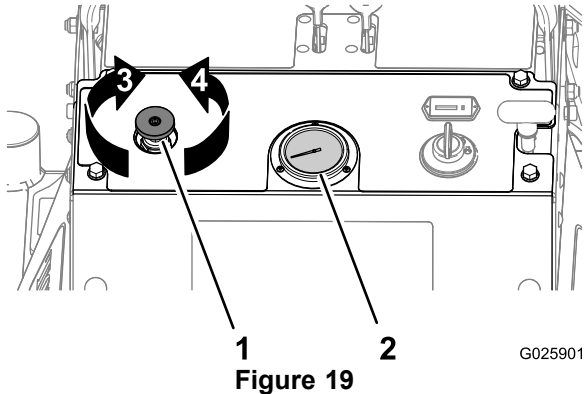

Figure 19
**Note:** First time use: set the tine pressure control so that the tine-pressure gauge (Figure 19) indicates 24 bar (350 psi).
- Rotate the tine-pressure control **counterclockwise** (Figure 19) to decrease the downward pressure in order to remove a **shorter** plug.
- Rotate the tine-pressure control **clockwise** (Figure 19) to increase downward pressure in order to remove a **longer** plug.